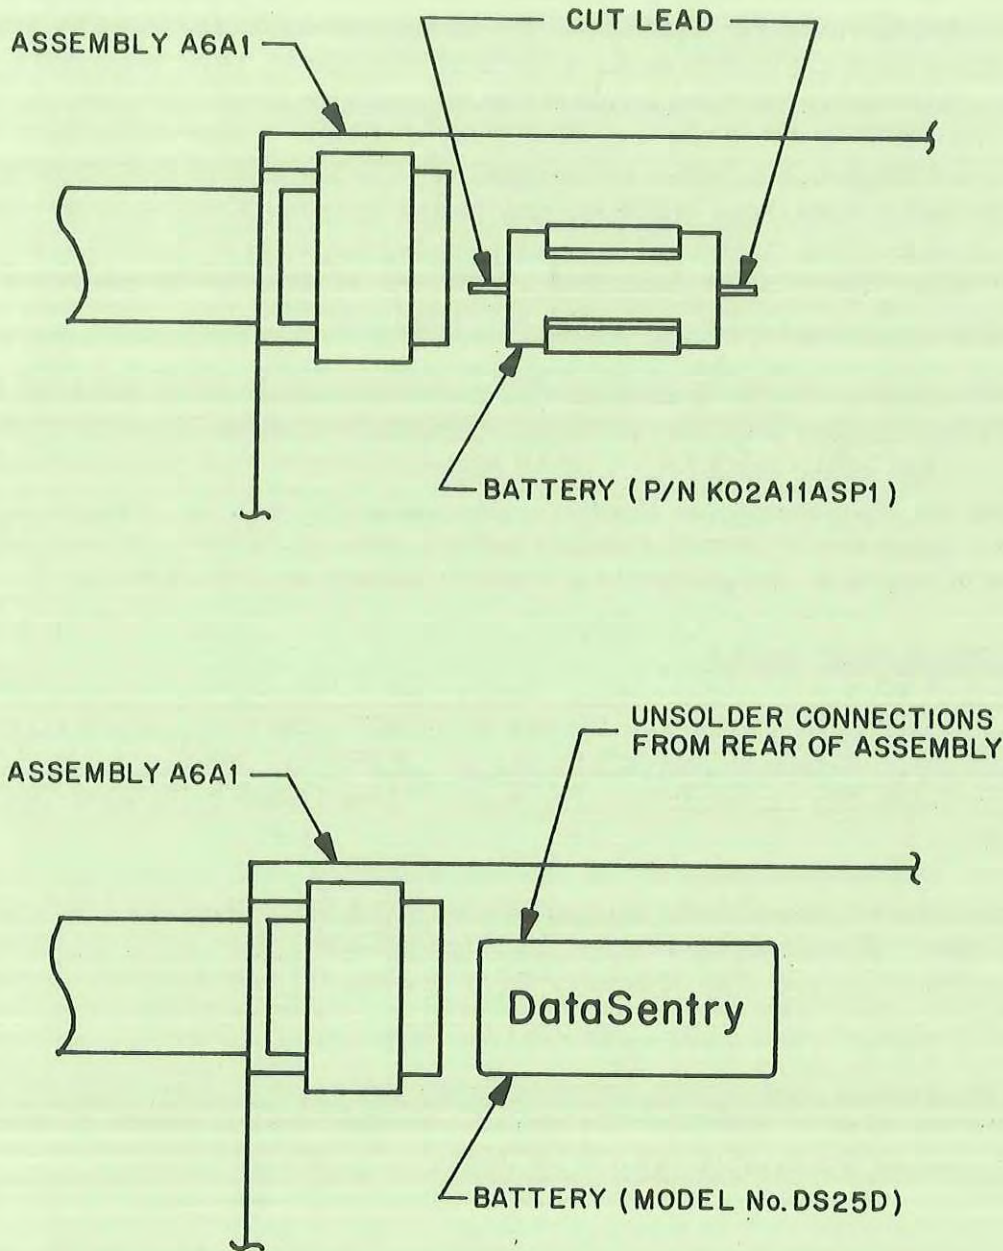

Figure 1. Battery A6A1BT1 Removal
1. Using Figure 1, locate and remove battery A6AIBT1 (part no. K02A11SP1) by cutting leads. Remove battery A6AIBT1 (model no. DS25D) by removing solder from battery-to-assembly connections on the rear of Manual Tuning Up/Down Counter A6A1 board.